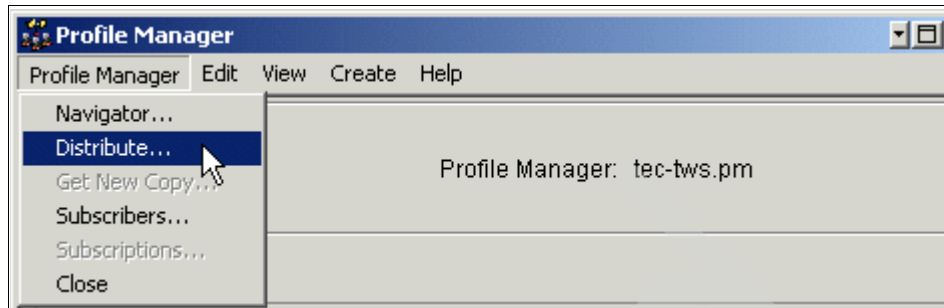

Figure 8-44 Distributing the TEC logfile adapter to the MDM
23. In the Profile Manager window, select **Profile Manager** → **Distribute...** as shown in Figure 8-44 on page 369.